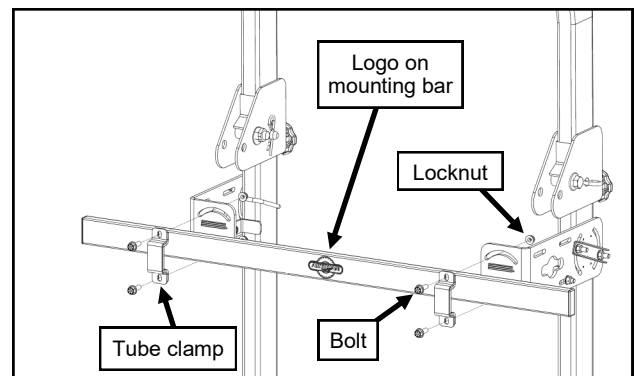

Fig. 7 (Attach mounting bar)
7. Attach the mounting bar to the ROPS brackets, oriented so the Artillian logo is away from the seat as shown in fig. 7. Use a tube clamp, two bolts, and two locknuts per bracket. Center the mounting bar to the ROPS and tighten bolts.